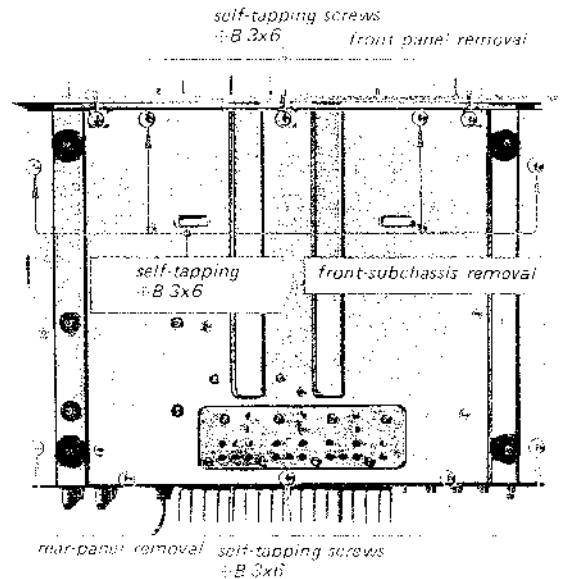
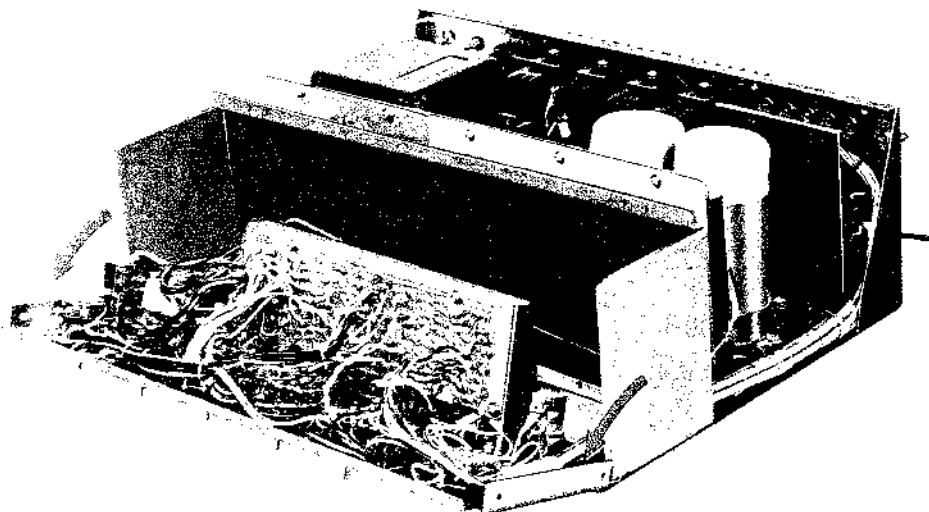
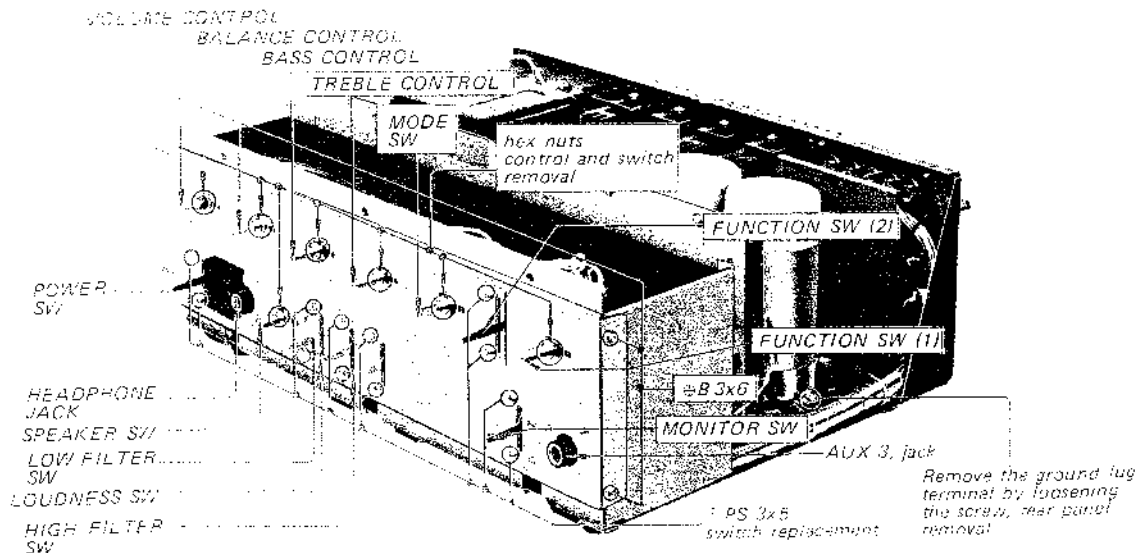

Fig. 2-3 Bottom view
Fig. 2-4 Front subchassis removal
Fig. 2-5 Control and switch replacement
4. Remove the three self-tapping screws (+B 3x6) at the front bottom of the chassis as shown in Fig. 2-3. This frees the front panel.
2. Remove the two screws (1-B 3x6) at each side of the chassis (see Fig. 2-5) and four self-tapping screws (1-B 3x6) at the front bottom of the chassis as shown in Fig. 2-3. This frees the front subchassis as shown in Fig. 2-4.
1. Remove the two screws (PS 3x5) securing switches to the front subchassis as shown in Fig. 2-5.
Remove the hex nuts that secure the switches or controls to the front subchassis as shown in Fig. 2-5.
4. Remove the ground lug terminal by loosening the screw securing the electrolytic capacitor (C-123) bracket to the chassis as shown in Fig. 2-5.